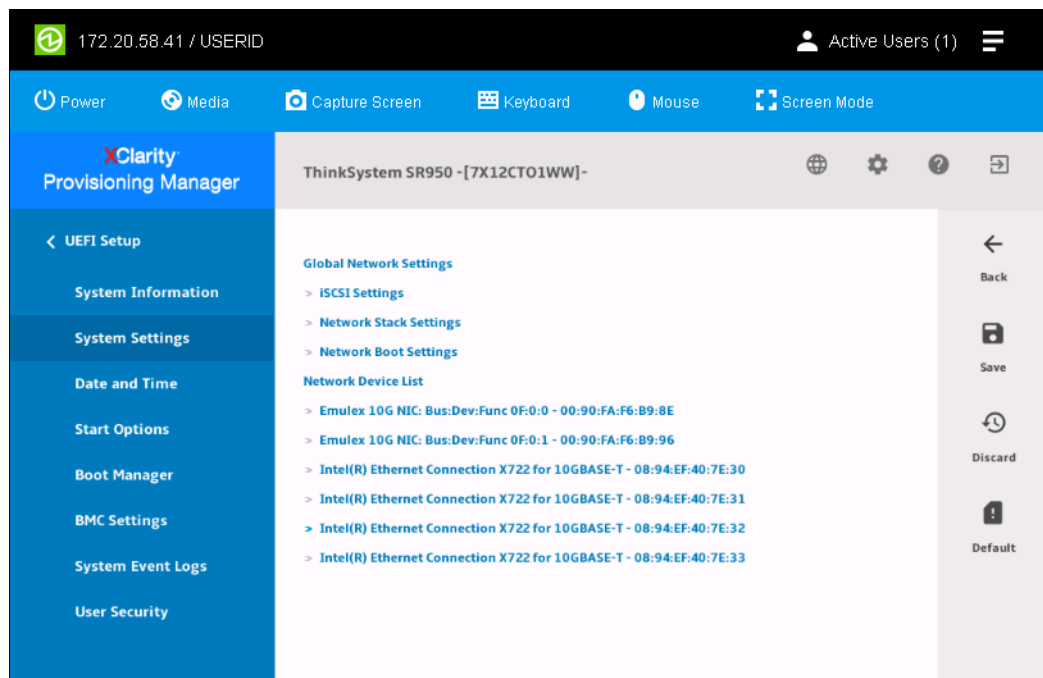

Figure 6-67 Adapters that are listed in LXPM-UEFI
- ▶ Check if LXPM (UEFI) recognizes the adapter. Enter into LXPM, select **UEFI Setup** → **System Settings** → **NIC Configuration**. The Adapters and UEFI Drivers panel opens, as shown in Figure 6-67.